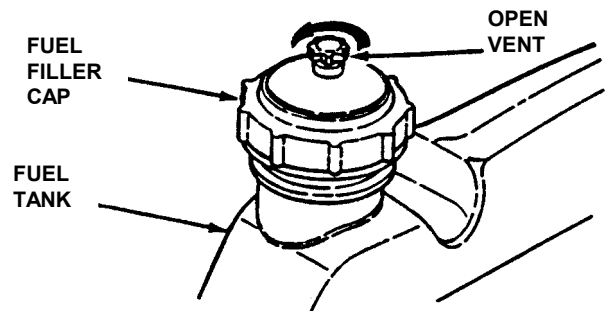

FIGURE 2.6
4. Open vent on fuel filler cap by turning counterclockwise. **IMPORTANT:** Failure to open vent on the fuel filler cap can cause engine to stall. See Figure 2.6.